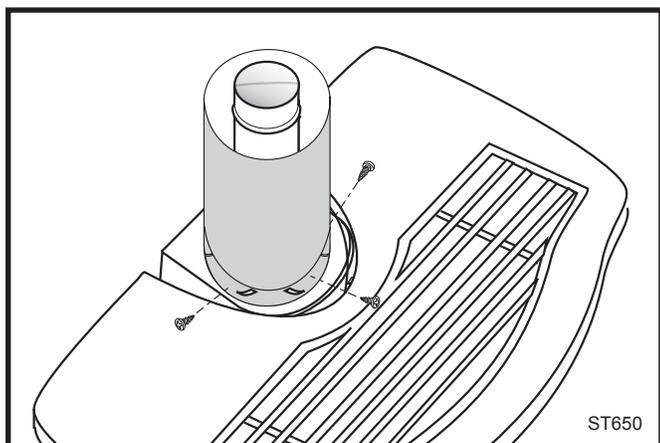

Fig. 21 Fasten outer pipe with #12 x 1/2" sheet metal screw.
- 5. Install the Outer Adapter Pipe.** Insert the pipe over the stove flue collar, keeping the vertical seam oriented to the back of the stove. Also, be sure to align holes on the pipe with the holes on the flue collar of the firebox. Fasten the pipe to the holes in the flue collar with the #12 x 1/2" sheet metal screws provided. (Fig. 21)